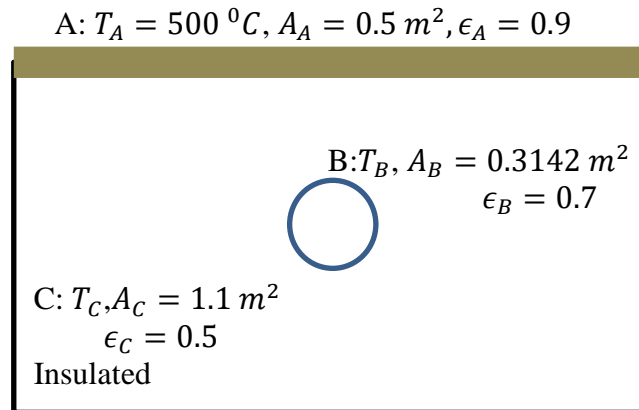

Figure Q8
8. A baked potato (B) is "suspended" in a grill. The top of the grill (A) is at 500 K , and the side walls (C) are insulated. The dimensions are given in the diagram in Figure Q8. Areas stated in the diagram are given by unit depth out of plane.